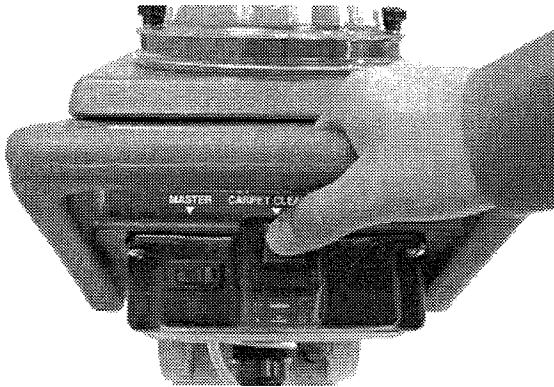

FIG. 4
2. Press and hold in Carpet Cleaning button. Pull machine towards you, 1219 mm (4 ft) at a time. For best cleaning results, lift machine handle slightly while pulling backward. This transfers weight of machine to the pickup head for best water recovery (Figure 4).